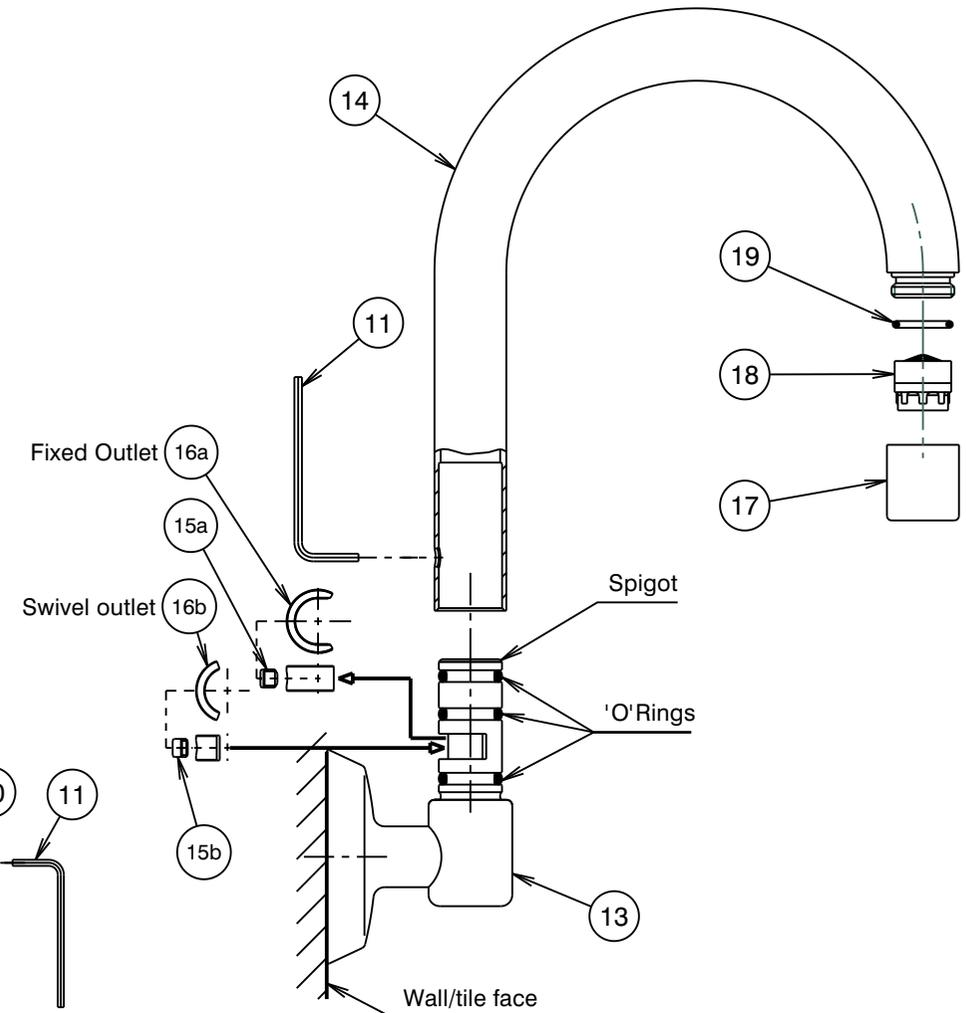

Fig. 5
- * If the outlet (14) is required to swivel, it is recommended that it is converted prior to installation (see Fig.5, Sht 2).
- 8) Before installing outlet base (13), it may be necessary to remove outlet (14) to provide clear access. See instruction for converting the outlet from fixed to swivel (Fig.5) on sheet 2 to assist with removal.
Converting the outlet from fixed to swivel (Fig.5)
Cleaning the Aerator Insert (Fig.5)